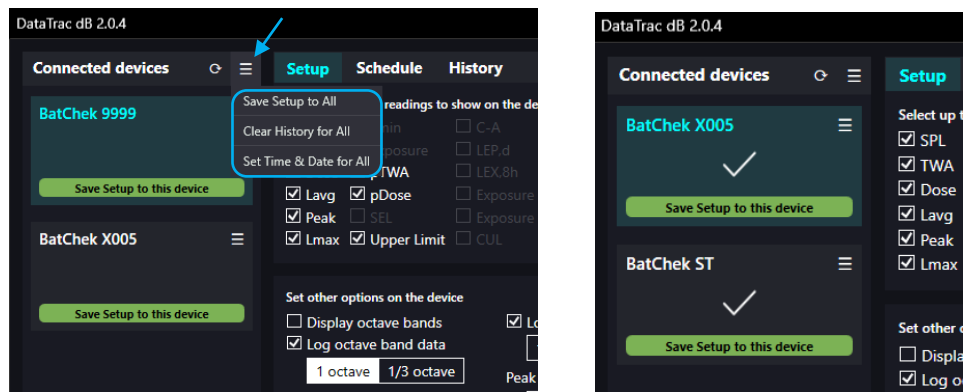

Figure 4. Connected devices Menu Options and Application
When multiple devices are connected in the 5-unit charging dock, use the Connected devices menu  to apply the following actions under any operation (Setup, Schedule, or History) to all connected devices at one time (see Figure 4):
2. Click on the Connected devices menu icon and select the desired option (*Figure 4 shows the menu options for Setup*). A check mark will appear briefly under each device name to indicate that the selected option has been applied to it.
7. If applicable, set **CUL Threshold** and **CUL Interval** values. CUL (Continuous Upper Limit) equals the number of times the set threshold was exceeded continuously for the set interval. Any continuous event lasting for the set interval counts as one, so using the values set in Figure 4 (117 dB and 30 sec) as an example, CUL = 1 for an event continuously lasting for more than 30 seconds but less than 59 seconds, 2 for an event lasting for 60 to 89 seconds, and so on. Each subsequent continuous event lasting for the set interval is added to the overall count.